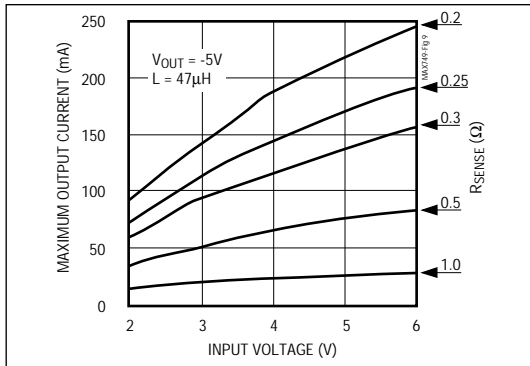

Figure 9a. Maximum Output Current vs. Input Voltage, $V_{OUT} = -5\text{V}$
To maximize efficiency and reduce the size and cost of the external components, minimize the peak current. However, since the output current is a function of the peak current (Figures 9a-9e), the limit should not be set too low.
- In Figures 9a-9e, locate the graph drawn for the appropriate output voltage (which is either the desired output voltage or, if that is not shown, the graph for the nearest voltage more negative than the desired output). On this graph find the curve for the highest R_{SENSE} (the lowest current limit) with an output current that is adequate **at the lowest input voltage**.
The theoretical design curves shown in Figures 9a-9e assume the minimum (worst-case) value for the current-limit comparator threshold. Having selected the current-sense resistor, the maximum current limit is given by $180mV/R_{SENSE}$. Use the maximum current-limit figure when choosing the transistor, coil, and diode.